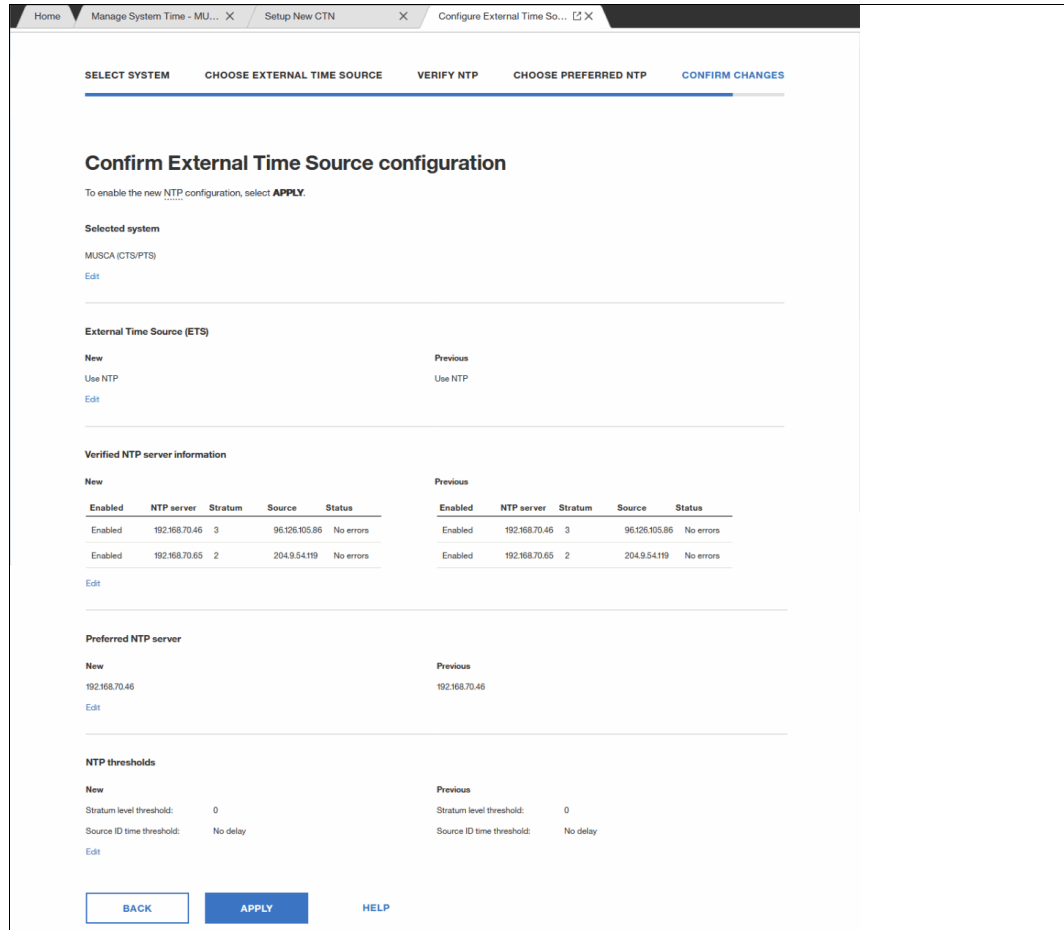

Figure 8-50 Confirm External Time Source configuration window
- The Confirm External Time Source configuration window opens. Verify and click **APPLY** to complete the definition (see Figure 8-50).